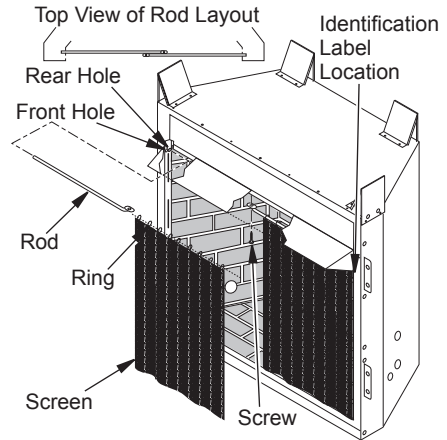

Figure 14 - Installing Fireplace Screen
4. Insert first rod into rear hole in left side of firebox. Fasten rod to rear hole near center of firebox using #10 x 3/8" Phillips screw provided (see Figure 14).